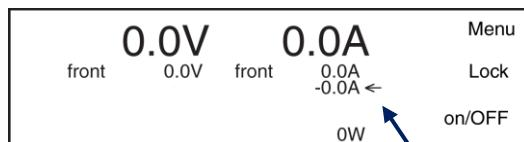

Figure 7.20: When the arrow appears behind the negative current settings, the sink current can be adjusted with the A-knob at the front panel.
- Set the function of the A-knob via Menu > Front Settings > Knobs: here select 'iset-' or 'iset+'. In the display the arrow behind the value for the current changes position. See Figure 7.20.